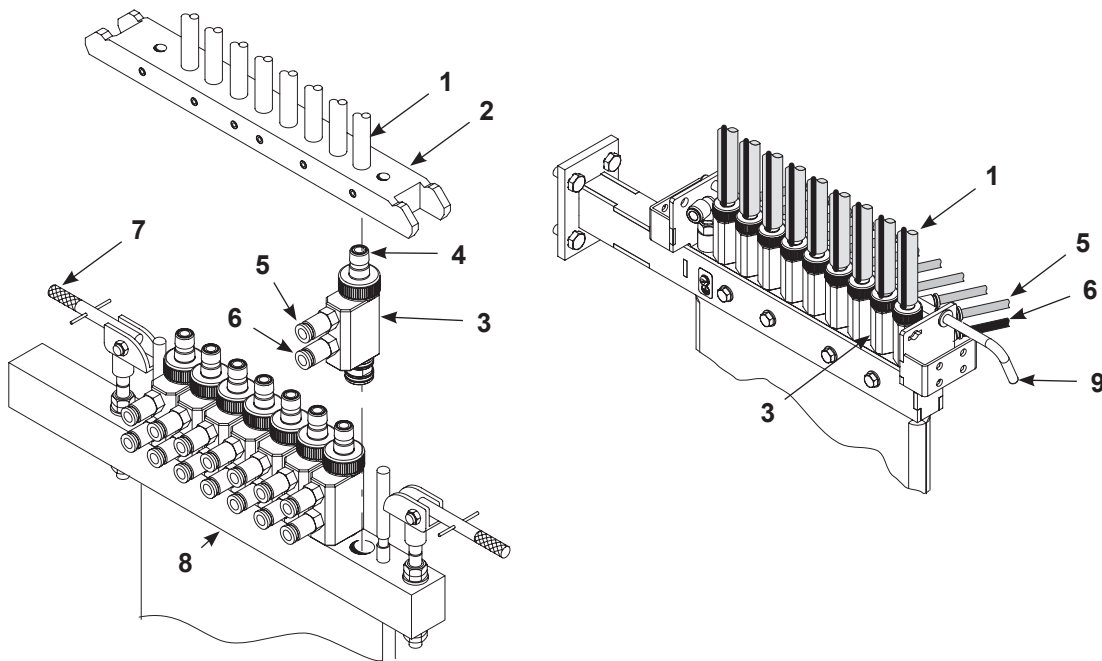

Figure 2 Removing and Installing Inline Pumps on Lance Assemblies - Hose Manifold Version Shown
3. See Figure 2. If used, unclamp the hose manifold (2).
4. Remove the hose manifold, or disconnect the hoses from the pumps, then remove the retainer rod (9).
5. Disconnect the air tubing from the pump flow rate (6) and atomizing air (5) fittings.
6. Pull the pumps (3) off the manifold block (8) with a slight twisting motion.
1. See Figure 2. Push the pump (3) into the manifold block (8) until the pump body bottoms out against the block.
2. Connect the flow rate and atomizing air tubing to the flow rate (6) and atomizing air (5) fittings.
3. Install the hose manifold (2) onto the pump venturi throats (4), or install the retainer rod (9), then connect the hoses to the pumps.